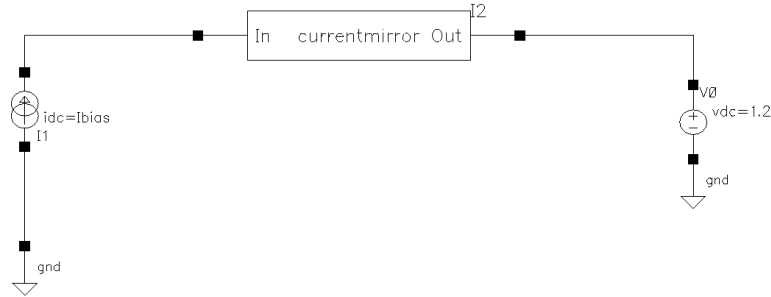

Figure 7: Current Mirror testbench.
4. Add the current source (**idc**), the voltage source (**vdc**) and **gnd**. Connect the current source to the input and make sure that the direction is right, see Fig. 7. The voltage source to be swept is placed between output and ground.